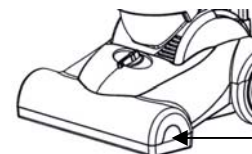

Fig. 12
- Replace the front end of the top cover ensuring the wheel hubs fit properly in place. (Fig 12)